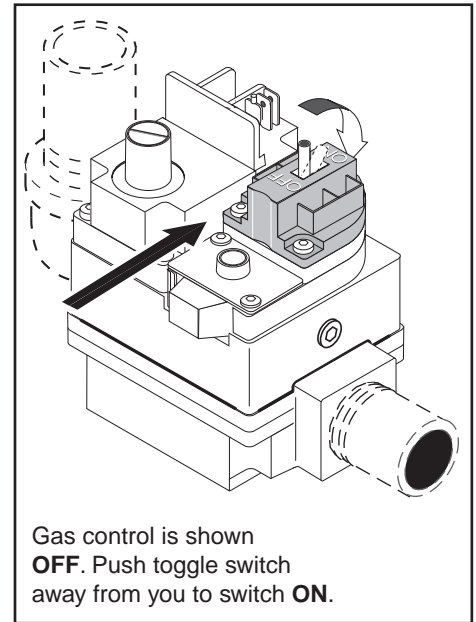

Figure 1.
6. **Toggle-Style Valve:** Pull toggle toward you to turn gas off, see Figure 1.
7. Wait five (5) minutes to clear out any gas. If you then smell gas, **STOP! Follow B in the BEFORE START-UP instructions on page 12. If you don't smell gas, go to the next step.**
4. **Toggle-Style Valve:** Pull toggle toward you to turn gas off, see Figure 1 on page 13.